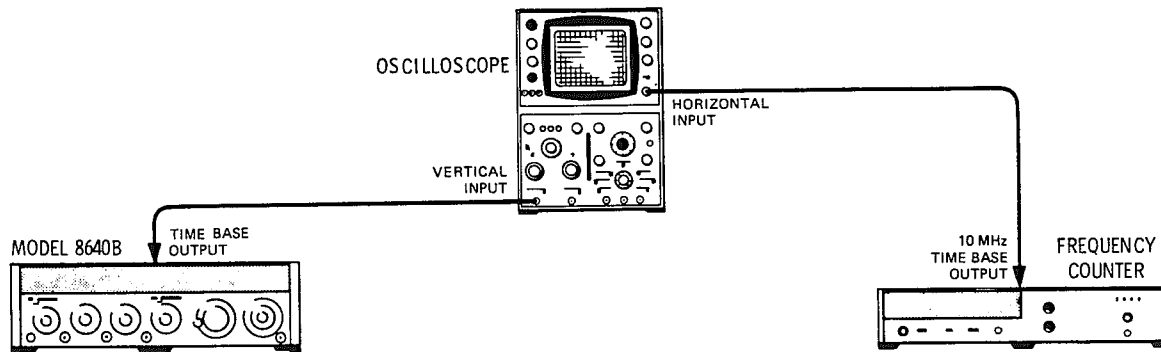

Figure 5-10. Internal Reference Frequency Adjustment Test Setup
2. Connect equipment as shown in Figure 5-10 after setting Signal Generator's controls as follows: